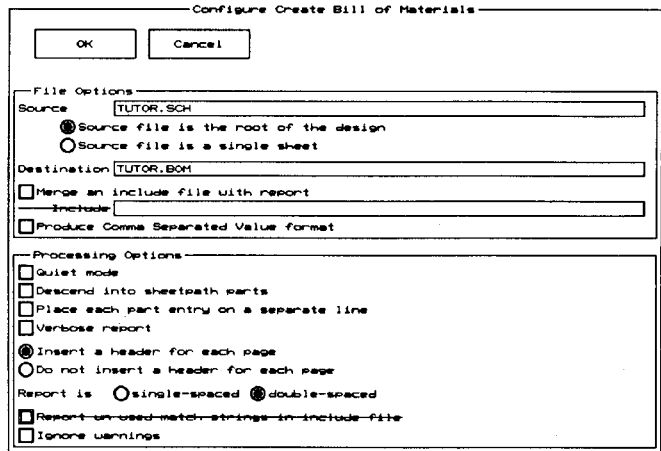

Figure 7-12. *Configure Create Bill of Materials* screen.
1. Select **Create Bill of Materials**, **Local Configuration**, and then **Configure PARTLIST**. The **Configure Create Bill of Materials** screen displays (figure 7-12).